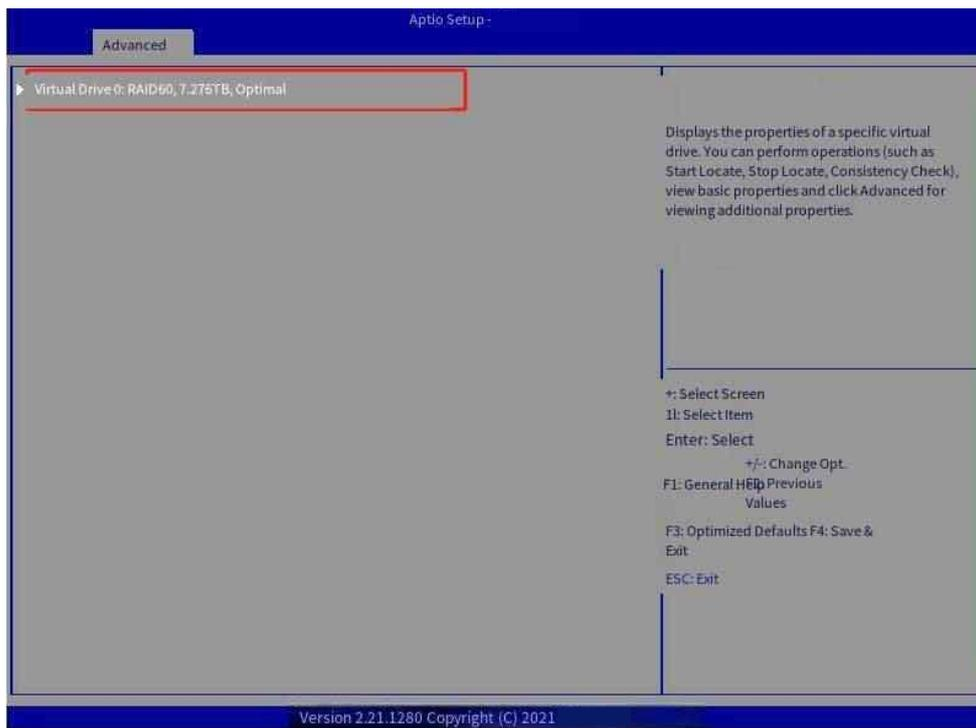

Figure 7-43 View the RAID properties
Step 2 Press Enter to go to the Virtual Drive Management screen. On the screen, you can view the RAID array created under the controller (Figure 7-43).
Step 3: Click "Select operation", select "Delete Virtual Drive" (Figure 7-43), click "Go",